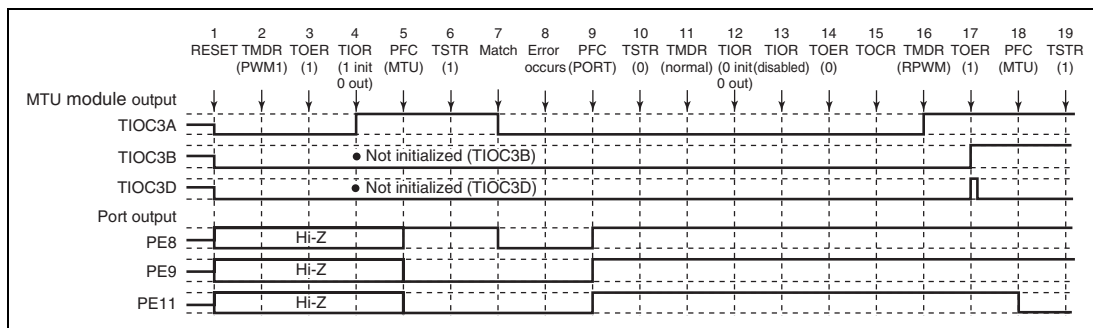

**Figure 11.96 Error Occurrence in PWM Mode 1, Recovery in Reset-Synchronous PWM Mode**
**Operation when Error Occurs during PWM Mode 1 Operation, and Operation is Restarted in Reset-Synchronous PWM Mode:** Figure 11.96 shows an explanatory diagram of the case where an error occurs in PWM mode 1 and operation is restarted in reset-synchronous PWM mode after re-setting.